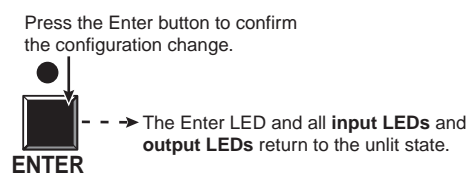

Figure 3-8 — Press the Enter button
5. Press and release the Enter button (figure 3-8).